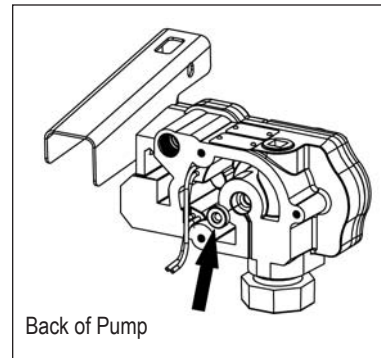

Figure 17
- Remove the motor shaft seal by prying out with a small screwdriver. (Figure 17)